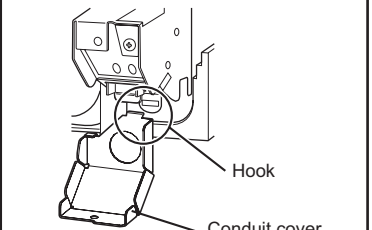
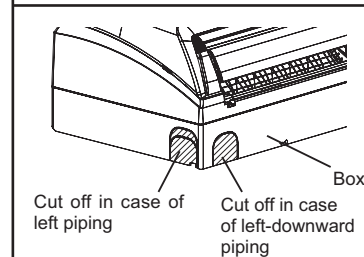
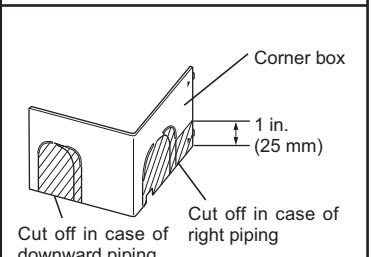

Fig. 4
Fig. 5
Fig. 6
- Secure indoor/outdoor unit connecting wire (A) and the ground wire with conduit cover. Never fail to hook the claw of the conduit cover to the electrical box. Attach the conduit cover securely. (Fig. 4)
- According to the piping direction, cut off the shaded part of the left side of box (Fig. 5) or corner box (Fig.6). Reinstall corner box and front panel.
- Insert the drain hose fully into the drain pan at the rear right of the indoor unit. (Fig. 4)
- Insert the drain hose into wall hole sleeve (C), and hook the upper part of indoor unit on installation plate (1). Then, move the indoor unit completely to the left in order to make placing the piping in the back space of the unit easier.
- Cut out a piece of cardboard from the shipping box, roll it up, hook it onto the back rib, and use it as a spacer to lift the indoor unit. (Fig. 5)
- Connect the refrigerant piping with the extension pipe (B).
- Thrust the lower part of the indoor unit into the installation plate (1).
- 4) Flaring work (Fig. 4, 5). Firmly hold copper pipe in the dimension shown in the table. Select A mm from the table according to the tool you use.
- Compare the flared work with Fig. 6.